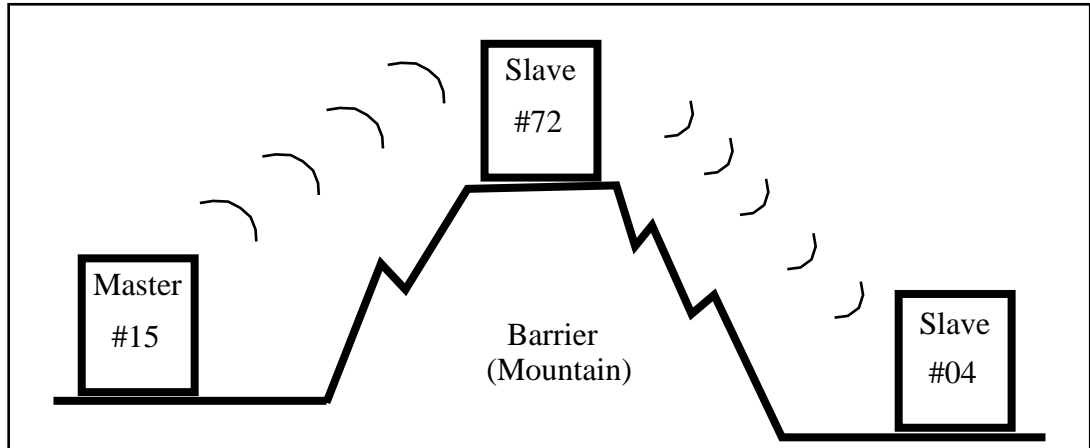

Figure 14-2 RNIM Repeater Example
Figure 14-2 displays an RNIM Master (15) on one side of a mountain, a Slave (04) on the other side of the mountain, and a Slave (72) at the top that can communicate with the other two. If a source on the Master's network (16) wants to send a READ to a PLC (87) on the Slave's network on the other side of the mountain, the route would be: 16, 15, 172, 4, 87.